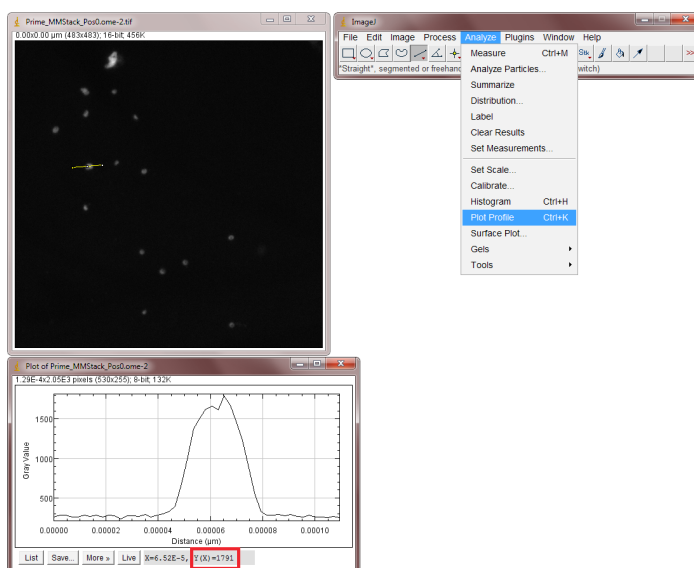

Figure 1
2. Select Plot Profile from the Analyse menu (Figure 1) to get a peak representing the signal across the line in Grey Levels. Find the value at the top of the peak.